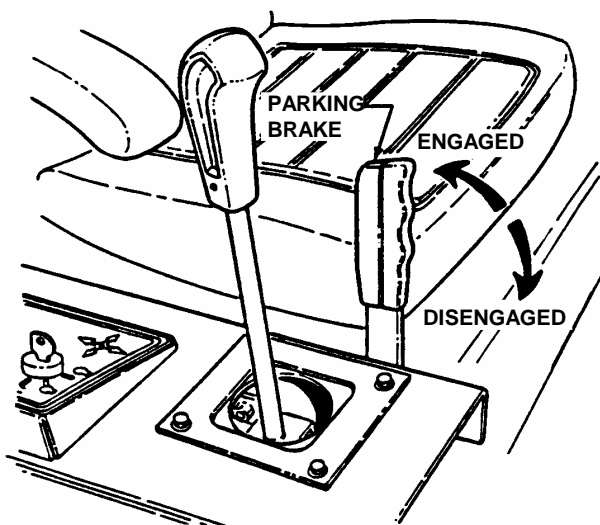

FIGURE 2.4
1. Engage parking brake by pulling the parking brake lever back to the "ON" position. See Figure 2.4.